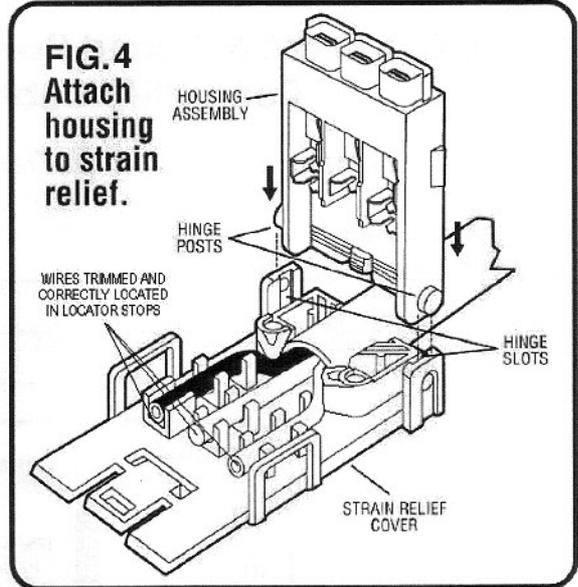

FIG. 4
- Press the cable sheath into the integral strain relief slot as shown in **Figure 3**. Trimming of ground wire and possibly others will be necessary. Wires must not extend beyond the locators as shown in **Figure 4**!
- While holding the strain relief cover, position the housing's hinge posts into the hinge slots and press down until both lock into place as shown in **Figure 4**.